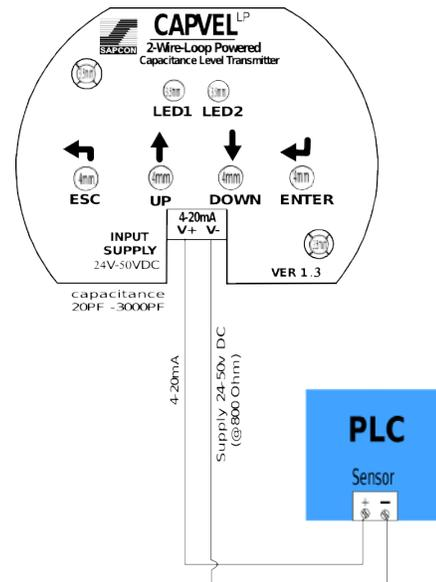

Figure 13: 4-20mA Connections(Active PLC)
CAPVEL-LP comes with DC power supply range of 24-50 V DC. As this is a two wire system the same terminal will be used for getting 4-20 mA output.(Refer figure 13) Follow the steps mentioned below for connection:
- Connect the PLCs + and - to PUT 1 and 2 respectively. (Refer Figure 13)